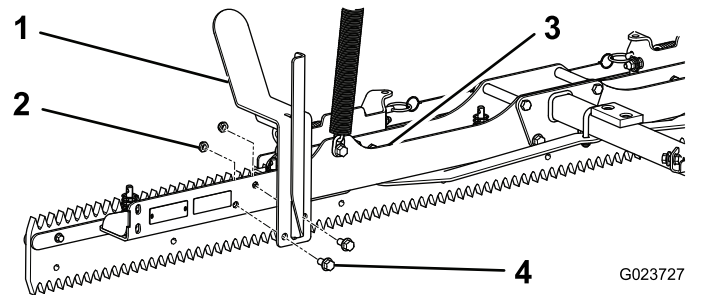

Figure 4
2. Align the bolt holes of a carrier with the holes on the front of the bottom plate of the nail drag (Figure 4).